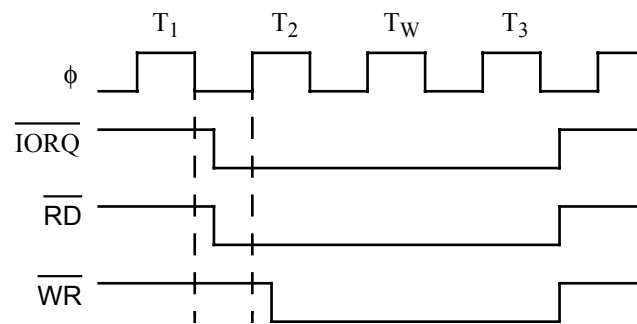

Figure 11. I/O Read and Write Cycles with IOC = 1
**IOC.** This bit controls the timing of the  $\overline{\text{IORQ}}$  and  $\overline{\text{RD}}$  signals. The bit is set to 1 by RESET. When  $\overline{\text{IOC}}=1$ , the  $\overline{\text{IORQ}}$  and  $\overline{\text{RD}}$  signals function the same as the Z64180 (Figure 11).